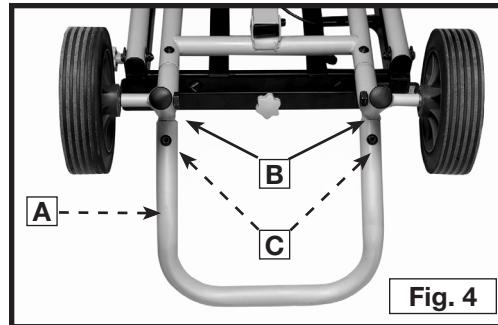

Fig. 4
1. Place the storage foot (A) Fig. 4 over the indentions of the wheel and storage-foot connector (B) so that, when the stand is upright, the storage foot will angle upward.
2. Align the holes and install two M8 x 15 mm buttonhead screws with the curved washers (C).